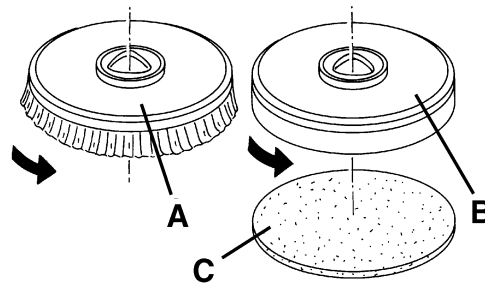

Figure 2
1. According to the kind of cleaning to be carried out, the machine can be equipped either with the brush (A, Fig. 2) or the pad-holder (B) with pad (C) together with the appropriate deck.
2. Press the switch (71) and/or (73) to turn the machine off.
3. Place the brush (A) or the pad-holder (B) under the deck (18).
4. Lower the deck on the brush/pad-holder by pressing the pedal (11).
5. Press the brush/pad-holder switch (71) and the vacuum system switch (73).
7. To remove the brush/pad-holder, the deck must be lifted by pressing the pedal (11), then press the switch (71) and wait for the brush/pad-holder to fall on the floor.